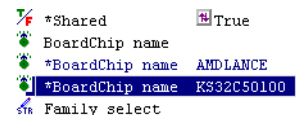

Figure 3-17 Setting up EtherRouter
8. Select the name of the other board group, for example AMDLANCE. A new entry is added to the right pane with an asterisk * beside it, shown in Figure 3-17.